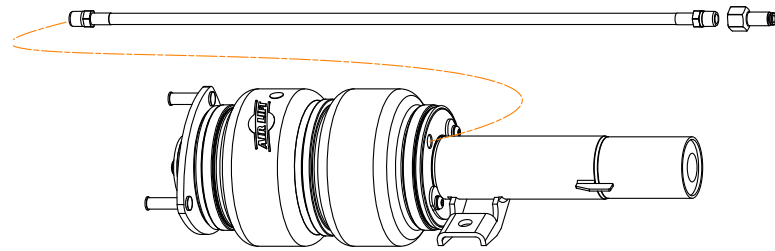

fig. 12
1. Install the braided air line into the air spring (Fig. 12) with thread sealant and torque 1 3/4 turns beyond hand-tight. Attach the desired air fitting to the braided air line with thread sealant, torque 1 3/4 turns beyond hand-tight.